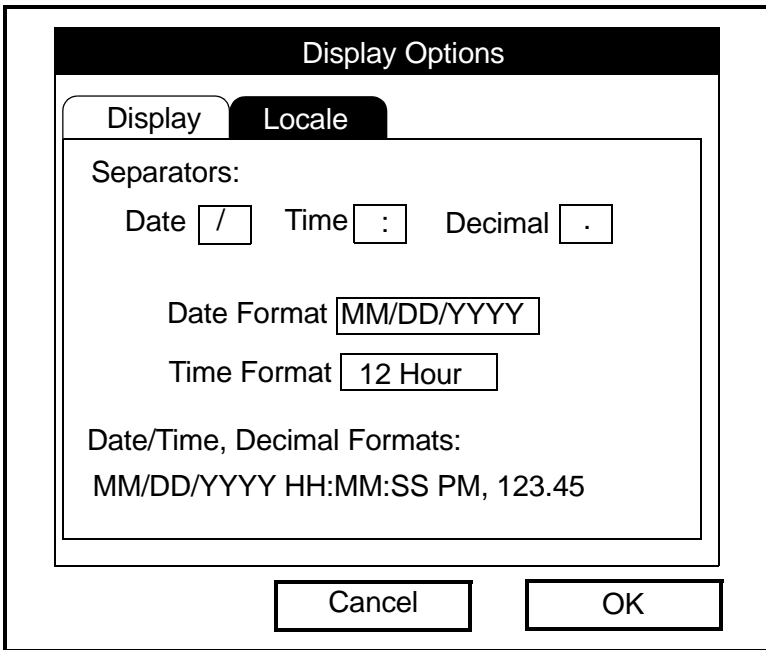

Figure 6-4: Format Tab in the Display Options Window
1. From the Meter menu, scroll to the Locale entry and press [ENTER]. The Display Options window opens on the Format tab, as shown in Figure 6-4 below. To step through each parameter, press the [▼] key.